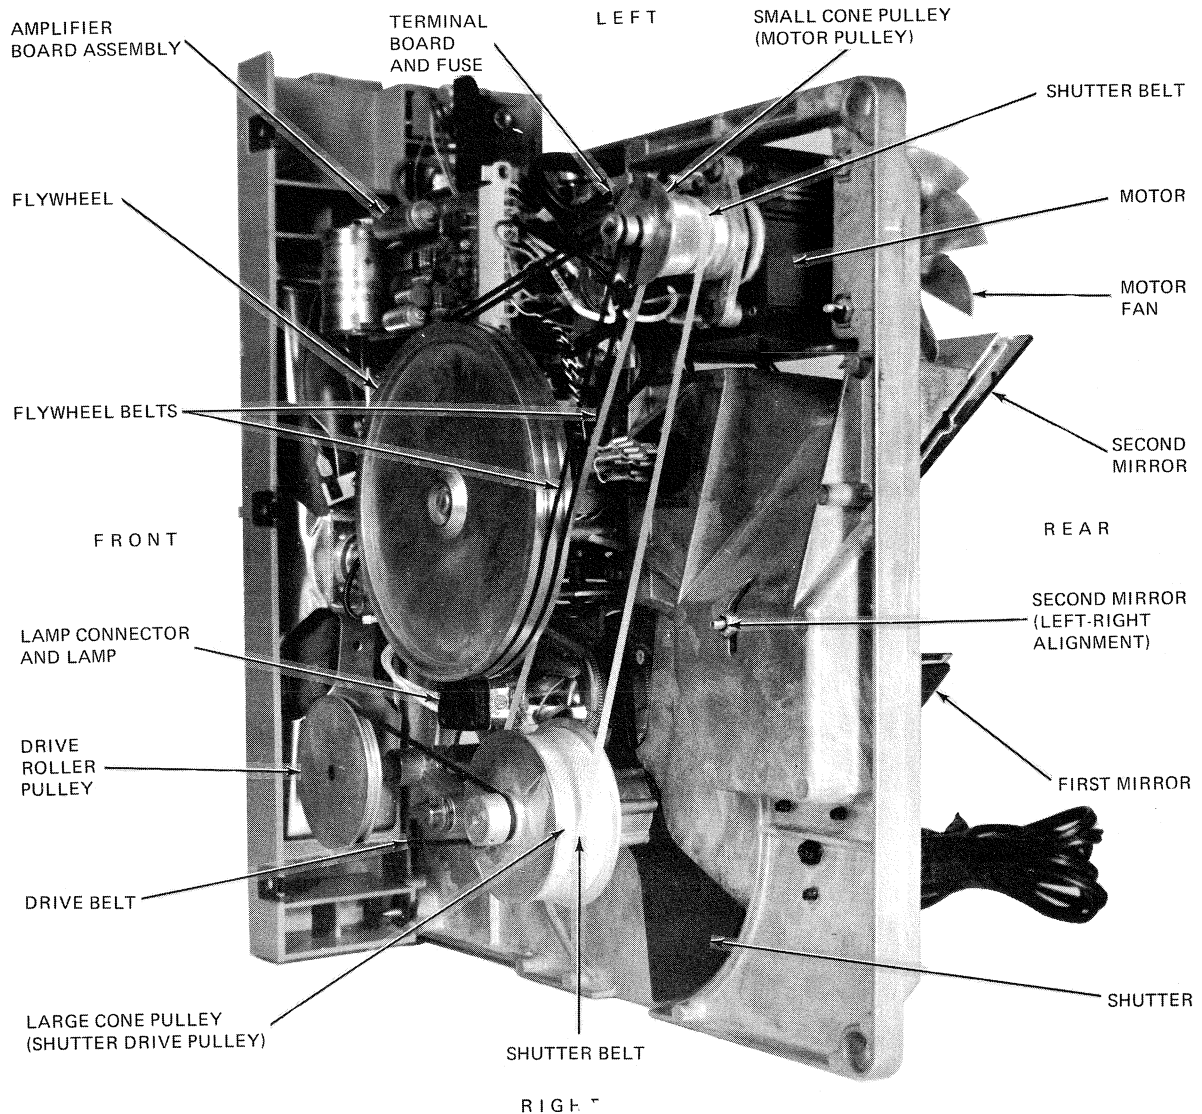

Figure 4-3. Adjusting Points, Bottom View
- C. While the projector is running insert a 5/16 inch nut driver through the case hole (plastic plug removed) to the adjusting nut. (See figure 4-3).
- A. Refer to figure 4-3 or 5-1 which shows the internal 2-Amp, 3AG, Slo-Blo fuse located on the terminal board. This fuse provides protection against current overload to the projector.